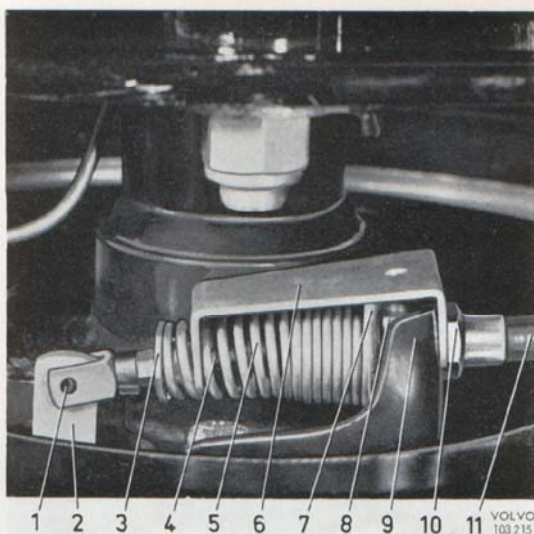

Fig. 5-16. Fitting the spring tool
- Place holder SVO 2742 so that the return spring is held in position according to Fig. 5-16. Bend up the lock and remove the lock pin so that the cable releases from the lever.
with the help of the holder tool, see Fig. 5-16. Oil the lock pin and fit it together with the cable on the lever. Fit the attachment and rubber and rubber cable guide on the frame member.